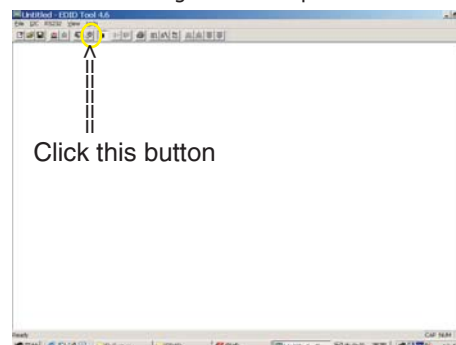
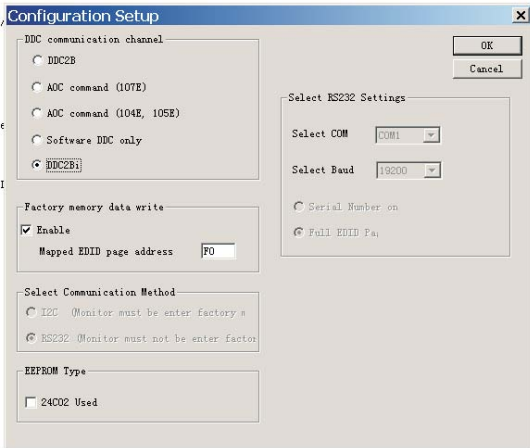

Fig. 10
Fig. 11
1. Click  icon as shown in Fig. 10 from the tool bar to bring up the Channels "Configuration Setup" windows as shown in Fig. 11.
As shown in Fig. 11.